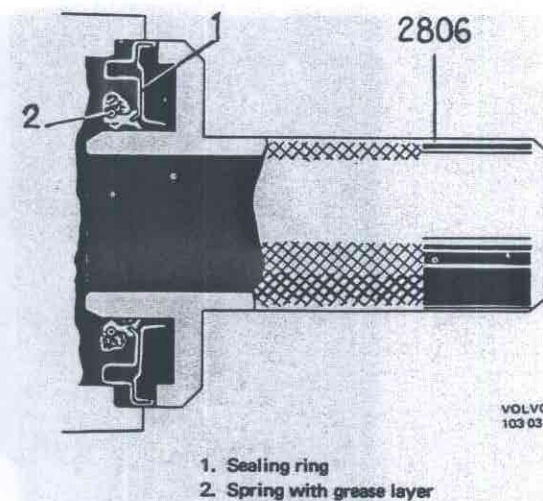

Fig. 46-17. Installing the sealing ring
5. Grease the contact surface of the new seal which faces the flange and on the reverse side of the sealing lip, Fig. 46-17.